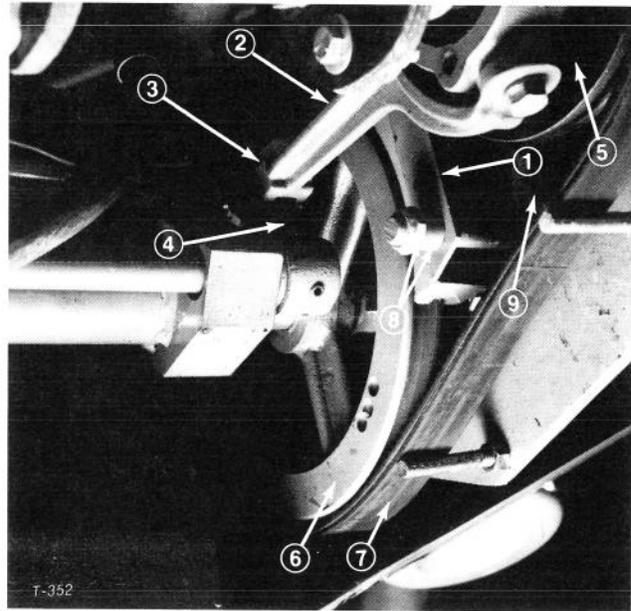

Figure 61
3. Move PTO lever to the ON position and remove PTO brake (Fig. 61).
4. Move PTO lever to the OFF position to release tension on the belt. Remove cotter pin and clevis pin from PTO fork and remove fork from PTO arm (Fig. 61). Roll old belt off engine pulley and PTO pulley (Fig. 61).
and engine pulley, making sure belt is to the inside of the three belt guides. Install PTO fork onto PTO arm and secure with clevis pin and cotter pin (Fig. 61).
2. Move PTO lever to ON position. Loosen adjusting locknut (Fig. 61) so brake is free to move. Move PTO lever to OFF and position the brake in grooves of pulley.
3. Tighten locknut to hold brake in position (Fig. 61).
pin, and slide spacer, brake and spring off the pins (Fig. 61).
2. Move PTO lever to the ON position to move pulley away from brake. Remove locknut holding brake on mounting pin, and slide spacer, brake and spring off the pins (Fig. 61).